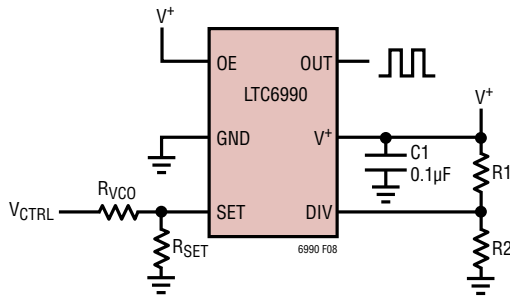
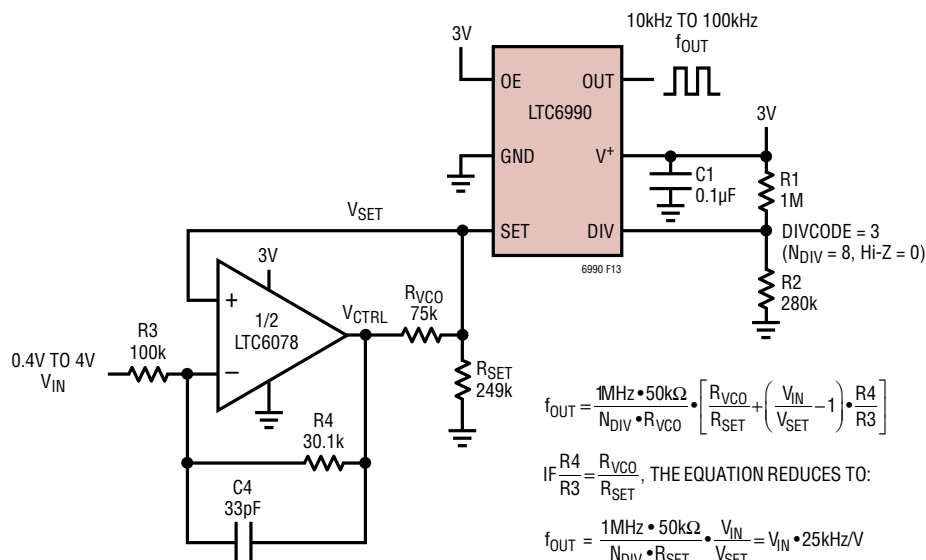

Figure 11. Voltage Controlled Oscillator
Figure 13. VCO with Reduced  $\Delta V_{SET}$  Sensitivity
Operating the LTC6990 as a voltage-controlled oscillator in its simplest form is achieved with one additional resistor. As shown in Figure 11, voltage  $V_{CTRL}$  sources/sinks a current through  $R_{VCO}$  to vary the  $I_{SET}$  current, which in turn modulates the output frequency as described in Equation (2).
For wide frequency range applications, the non-inverting VCO circuit shown in Figure 13 is preferred because the maximum frequency error occurs when the frequency is highest, keeping the relative error (in percent) much smaller.
Depending on the application's requirements, the non-inverting VCO circuit in Figure 13 may be preferred for this wide of a frequency variation as its maximum inaccuracy due to  $V_{SET}$  error is only  $\pm 9\%$  and can be reduced to only  $\pm 3\%$  with a small change to the voltage tuning range specification.
Figure 13 shows a VCO that reduces the effect of  $\Delta V_{SET}$  by adding an op-amp to make  $V_{CTRL}$  dependent on  $V_{SET}$ . This circuit also has a positive transfer function (the output frequency increases as  $V_{IN}$  increases). Furthermore, for positive  $V_{IN}$  voltages, this circuit places the greatest absolute frequency error at the highest output frequency. Compared to the simple VCO circuit of Figure 11, the absolute frequency error is unchanged. However, with the maximum absolute frequency error (in Hertz) now occurring at the highest output frequency, the relative frequency error (in percent) is greatly improved.